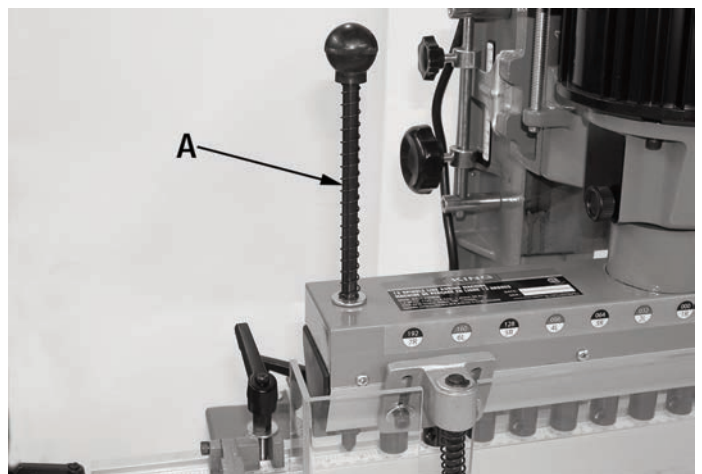

FIGURE 14
If more than 13 holes are required, lift the fence stop and slide the workpiece along the fence and push down on the indexing pin (A) Fig.14 until the pointed end of the pin is in the last hole previously bored. This aligns the workpiece for the next series of holes.